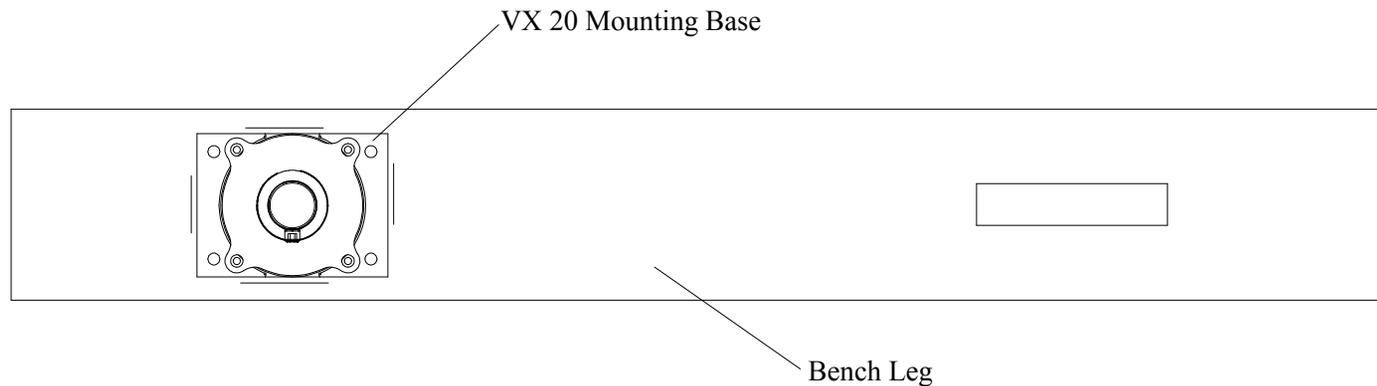

FIG. 3
Step 6: You should end up with four pencil lines roughly 1/8" away from the mounting base as shown in Fig. 3. Position the mounting base centered between the pencil marks and mark the mounting hole locations. A transfer punch is ideal for this but a brad point drill bit will also do.